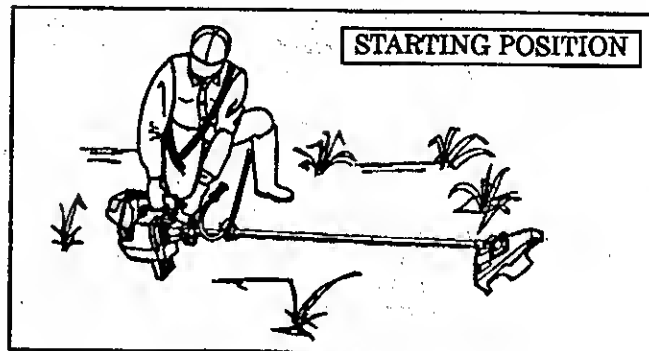

Figure 10
- Rest Engine and Shield on ground, supporting blade or trimmer head off ground away from trees, bushes, onlookers, etc. Figure 10 .